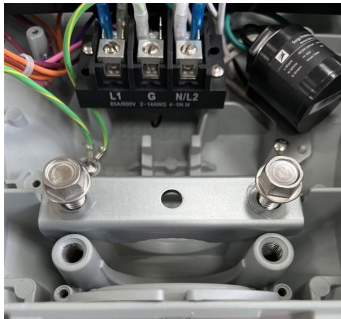

Fig 3.1.
Step 4 - Securely tighten bolts to 16±2 lbs-ft. (22Nm ± 3Nm) by alternating from bolt to bolt **in equal measured amounts of 25% torque**. (Refer to image, Fig 3.2 below for tightening order for 4 bolt mounting bracket. Number of bolts may vary depending on the fixture, Fig 3.1.) Ensure that the slip-fitter bracket does not tilt completely to one side and refrain from unevenly tightening bolts, as it will cause cross-threading.